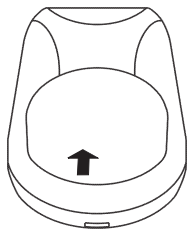

Figure 3
8.1 Open the case cover by releasing the latch with a screwdriver (figure 3).